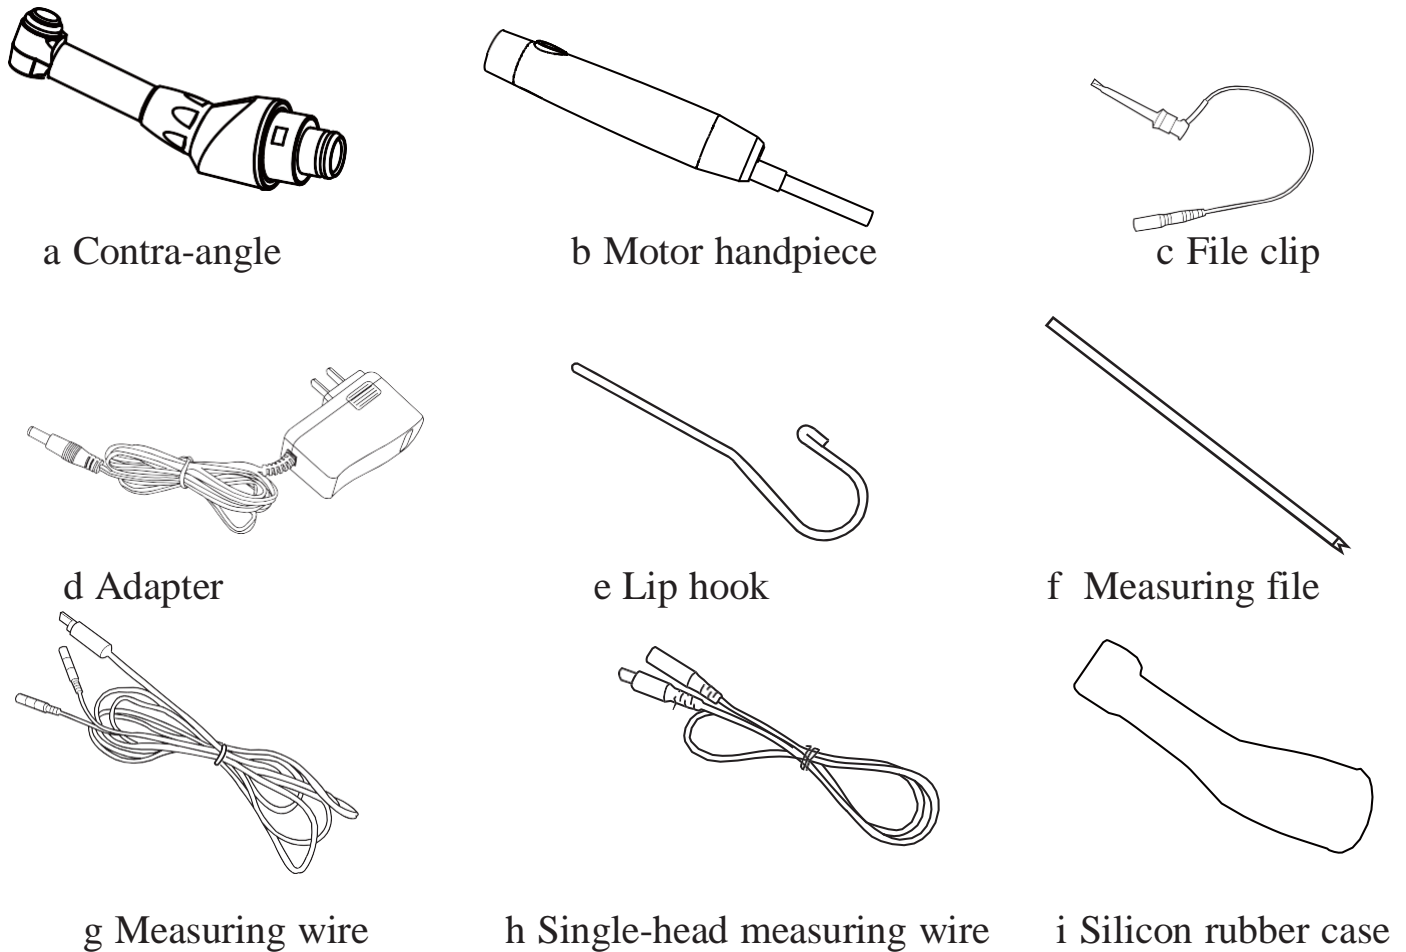

Fig. 1.2 The figure of the main accessories.
1.6.2 The figures of the main accessories. (Fig. 1.2)